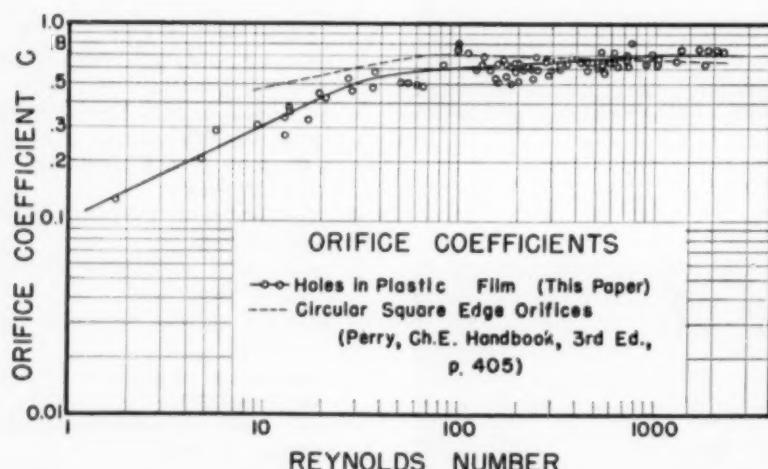

Fig. 1.
Data obtained were the pressure drop and the rate of flow of gas, from which, with Equation (1), the orifice coefficient for each measurement was calculated. The Reynolds number was calculated, with gas density determined from the ideal gas law, and gas viscosity data obtained from the nomograph in the Chemical Engineers' Handbook (3). Figure 1 presents a graph of the data obtained, covering a range of Reynolds numbers from 1.8 to 2,200, with an average deviation from the curve of 8%. There is no trend of deviation with diameter, film thickness, or method of making the hole. For comparison, the curve for a square-edged circular orifice given by Drew and Genereaux (2) is dotted in. Although not corresponding exactly with the present data, it shows similar trends: the decreasing coefficient at low Reynolds numbers, and the approach to a constant value of about 0.65 at high Reynolds numbers.
Evidently the coefficient is proportional to the square root of the velocity, or, since all terms except velocity in the Reynolds number are constant, to the square root of the Reynolds number. In Figure 1 the slope of the line in the region of low Reynolds number is approximately 0.5, which corresponds with the description in Equation (5). Although the diameter of the holes is greater than that given by Suran at the point at which transition begins, the deviation from frictional-type flow is not great.
Therefore, in the region of high Reynolds numbers, the coefficients should reach a constant value, and the data plotted in Figure 1 show that they do.
The correlation shown in Figure 1 can be used in calculating the flow of gas through holes if the diameter and conditions of flow are known, or in estimating the diameter if the rate of flow is known.